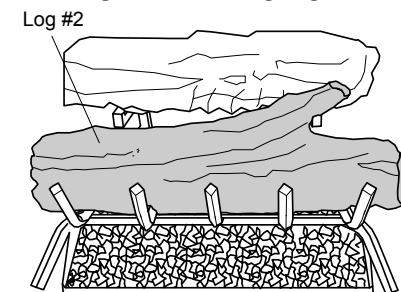

Figure 9 - Installing Log #2
2. Insert log #2 into slots in middle grate bracket (see Figure 9).